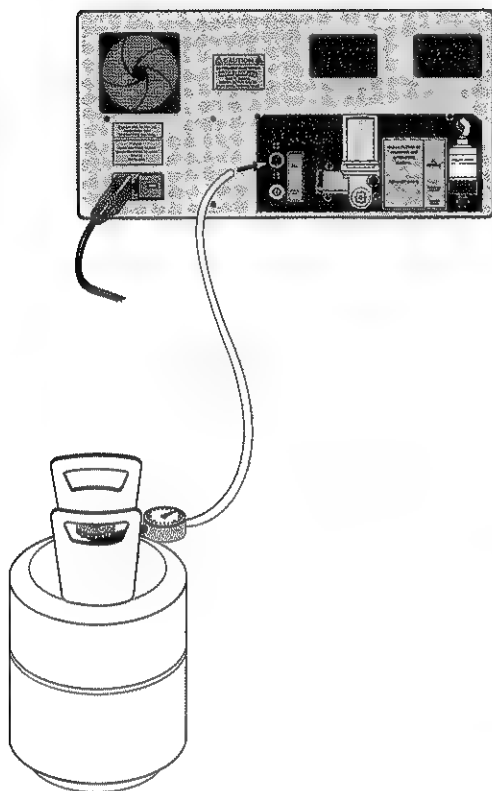

FIGURE 19:
1. Turn the analyzer **ON** and allow it to warm up, uninterrupted, for at least thirty (30) minutes. Allow it to proceed on its own to the **RUN** mode.
2. While the analyzer is warming up, connect the regulator assembly, hose, and calibration gas tank together as shown in FIGURE 19, if not already done. Connect the hose from the tank's regulator to the **CALIBRATION GAS** barbed inlet fitting on the rear of the analyzer. After all plumbing connections are complete, confirm that your tank of calibration gas has gas in it by turning on the tank's valve, and then setting the regulated pressure between the recommended 10 - 15 psi limits. Once this value is set, turn the calibration tank's valve **OFF**. If you cannot reach at least a 10 psi reading on the regulator's gauge, your tank is, for all practical purposes, empty. **Do not proceed any further into the calibration procedure until a replacement tank of calibration gas is obtained!**